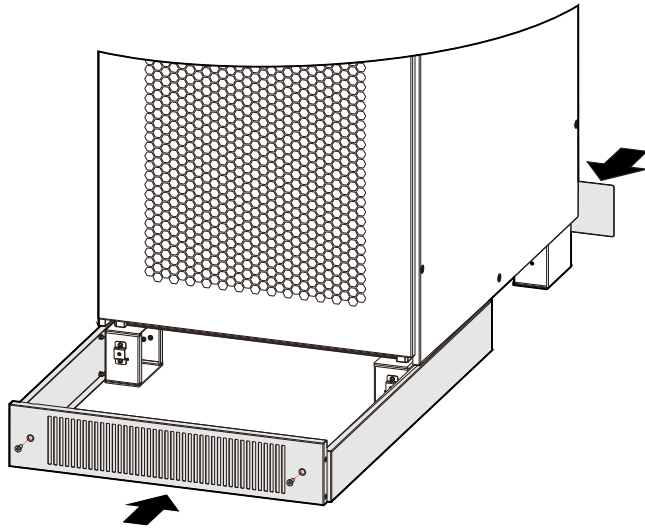

Figure3-11 Install the bottom plates
- Step 5 Install the bottom plates, as shown in Figure3-11.